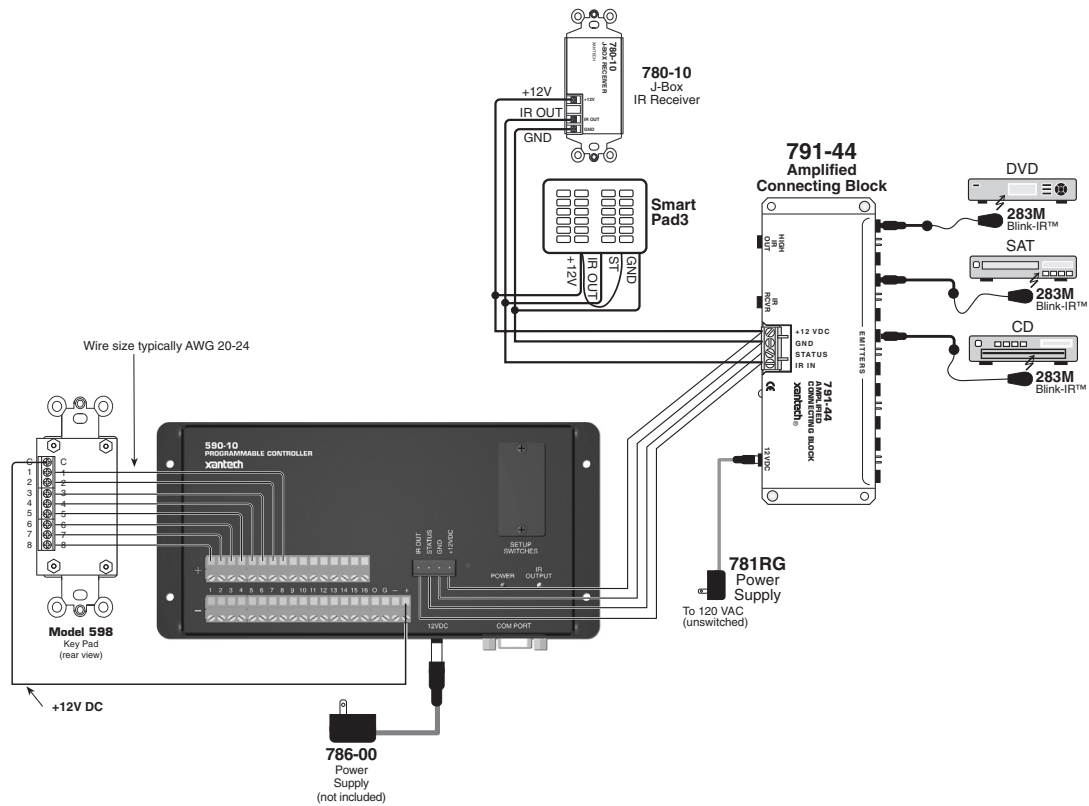
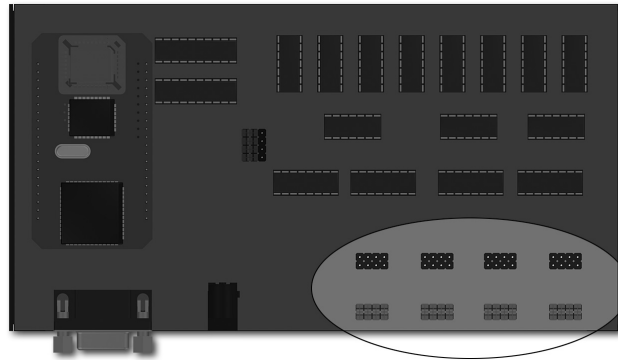
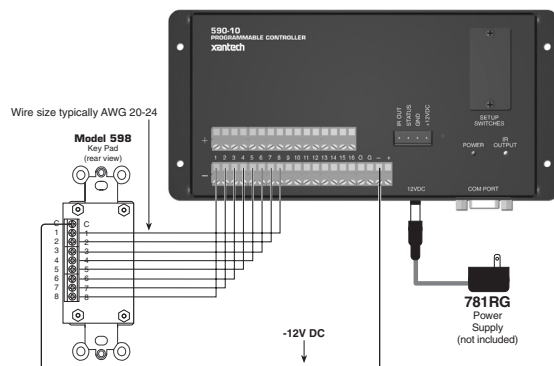
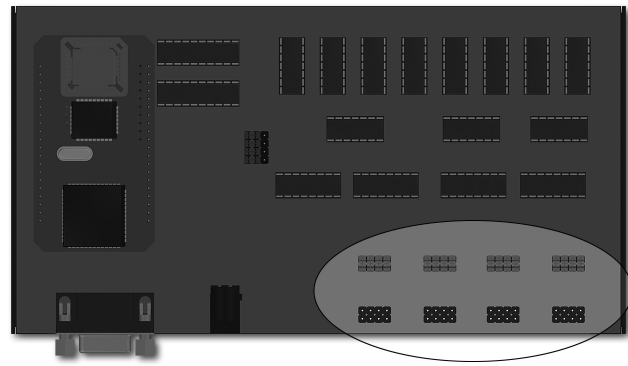

Figure 2 – Typical Basic System
Figure 3 - Internal Jumper Headers – Default Position
Figure 4
Figure 5
2. Connect the OUTPUT of the 590-10 to be programmed to the product to be controlled to test commands. **Figure 2** shows connections to a typical basic system.
A decision as to the type of external input(s) must be made. **Figures 2, 4, 7 and 8** show some examples. The LED inside each opto-isolator within the 590-10 must pass current in order for the unit to recognize an input. This is accomplished by applying a 5 to 30-volt DC input to these 16 circuits. While many types of switch closures to do this are possible, **Figure 2** shows the 598 providing contact closures to activate 8 of the 16 opto-isolator inputs. Note that internal jumpers are factory configured so that the negative input terminals are grounded.
Figure 3 shows the jumpers in their default position. With the jumpers in the default position and switches configured as shown in **Figure 2**, the input will switch to +12VDC. **Figure 5** shows the jumpers in the optional position. With the jumpers in the optional position and switches configured as shown in **Figure 4**, the input will switch to ground.